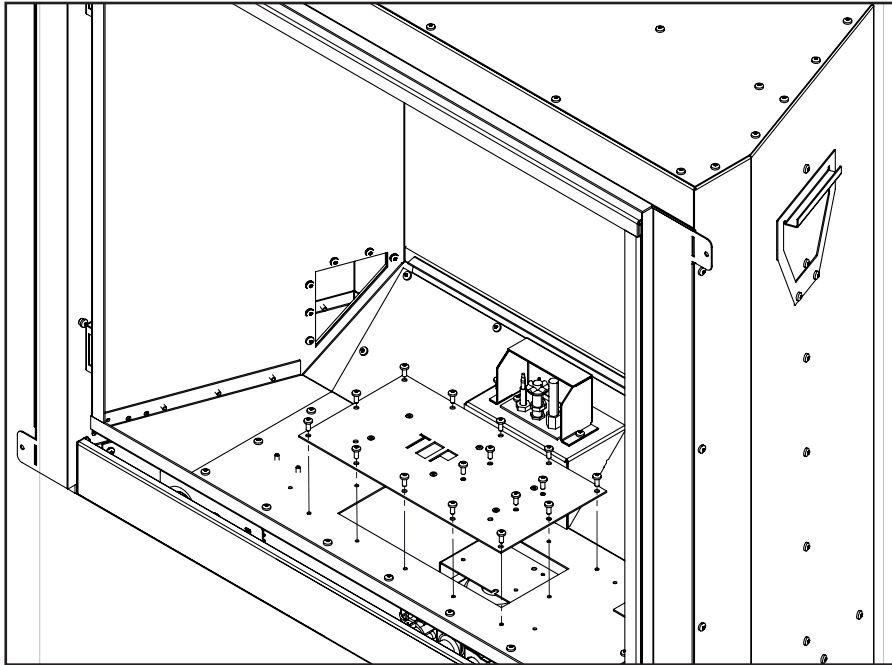

Figure 12. Removing Access Door
Step 2: Remove the Upper Air Diverter by removing (2) T-20 bolts. Remove the Lower Air Diverter.
Step 3: Remove the right and left burner stands by removing (4) T-20 bolts.
Step 4: Remove the (16) T-20 bolts retaining the access door as shown in Figure 12.